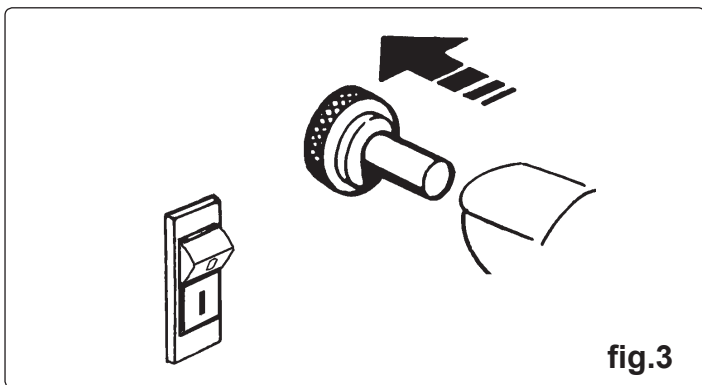

fig.3
4.1.2 Push the gas valve button (yellow) in and hold (fig.3), then press repeatedly on the ignition lighter button (red), until the flame ignites.